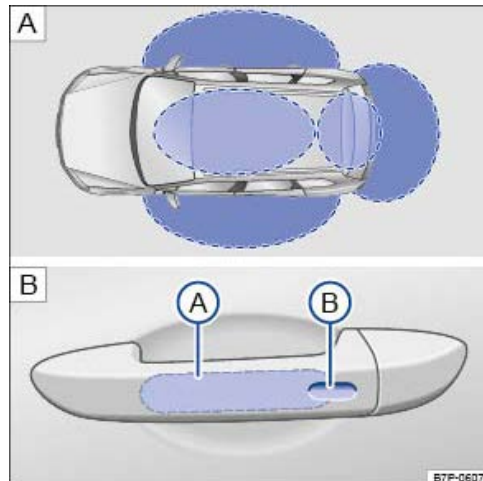

Fig. 71 Keyless Access locking and starting system: operating range. Sensor surfaces of the central locking system.
Keyless Access is a locking and starting system that allows the vehicle to be locked or unlocked without actively using the key. For this purpose, a valid vehicle key must be within the vehicle's range → *Fig. 71* . The vehicle's boot lid is unlocked or locked by touching the sensor surfaces on the front door handles or pressing the button in the boot lid → *Boot lid* → .
If a valid vehicle key is in the operating range → *Fig. 71* , the Keyless Access locking and starting system authorises the key to obtain access to the vehicle. The following functions can then be performed without active use of the vehicle key:
- *Easy Open*: opens the boot lid through a foot movement underneath the rear bumper → *Fig. 71* .
- Touch the sensor surface → *Fig. 71*  on the inside of the driver or front passenger door handle.
If the vehicle is locked and a valid vehicle key is located within the operating range → Fig. 71  of the boot lid, the boot lid automatically unlocks when you open it with the handle button.
To use convenience closing for all the electric windows and the glass roof, hold your finger on the sensor surface → Fig. 71 in the driver or front passenger door handle for a few seconds until the windows and the glass roof have closed.